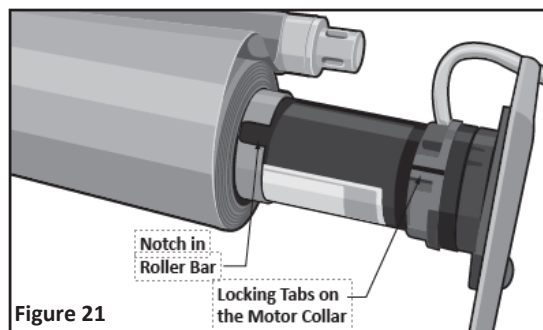

Figure 21
31. Locate the replacement motor removed in Step 25. Begin sliding the motor into the end of the roller bar, rotating it to align the locking tabs on the motor collar with the notch on the roller bar. While holding the roller bar, push the motor into the roller bar until it is fully seated in the notch, then slide the roller bar into the housing. See **Figure 21** and **Figure 22**.